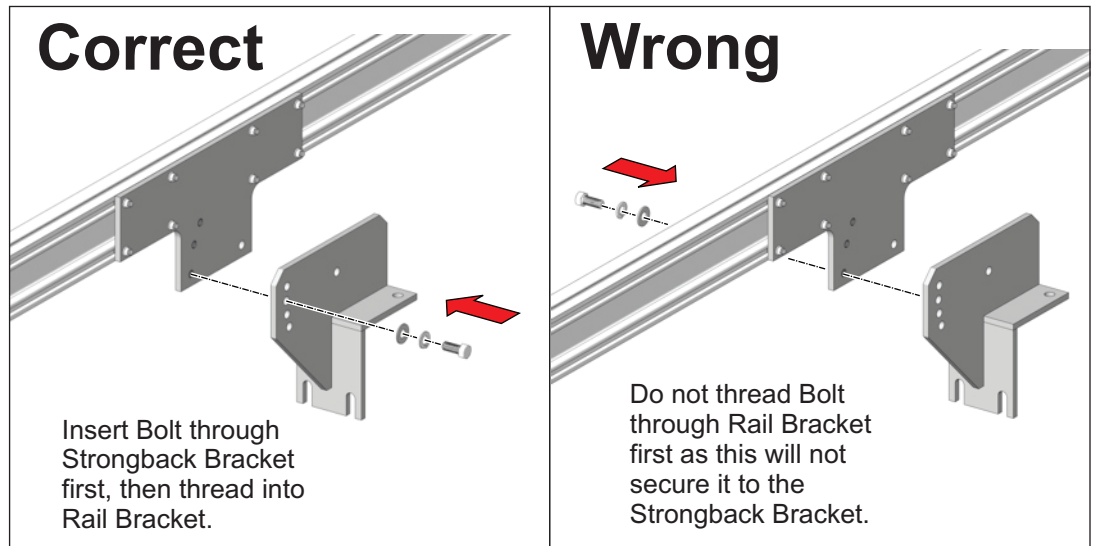

Figure 3-4 Correct and Wrong methods of installing hex/lock bolt
The Rail Bracket must be secured to the Strongback Bracket using the hex/lock bolt as shown in figure 3-4. Failure to do so could lead to structural failure and or personal injury.
- B. Rotate the Strongback Bracket to align the 3 & 5 hole combination. Referring to figures 3-4 and 3-5, insert the 1/2" x 1-1/4" hex/lock bolt with flat and lock washers and tighten securely. **Torque to 45-50 ft-lbs.**